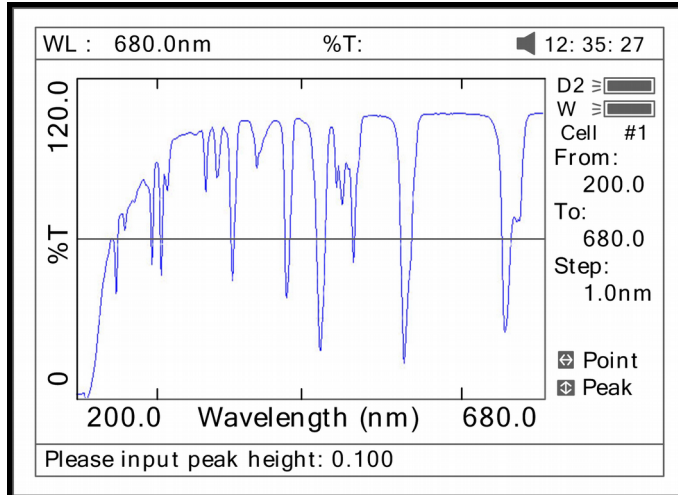
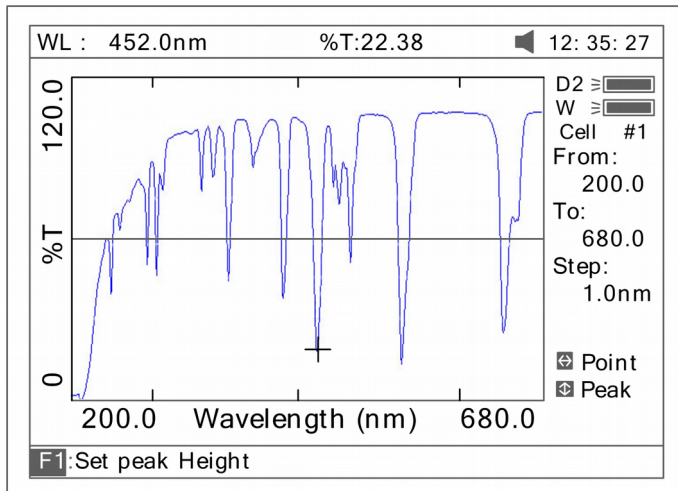

Fig 50
Fig 51
1) Peak to peak, press **(F1)** to set "peak height" and input value by pressing the numeric keypad (Fig 50). Press **(^)** to search the peak from left to right and press **(v)** to search from right to left. The value of every peak found will be displayed on the screen one at a time (Fig 51).